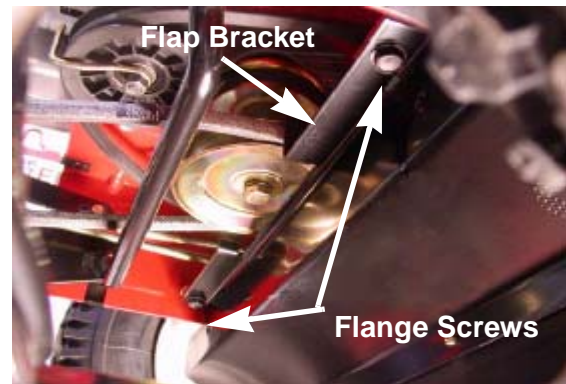

FIGURE 6
8. Using a 1/2 inch socket and extension, remove the two flange screws that secure the flap bracket to the frame. Remove the flap bracket and set it aside. See Figure 6.